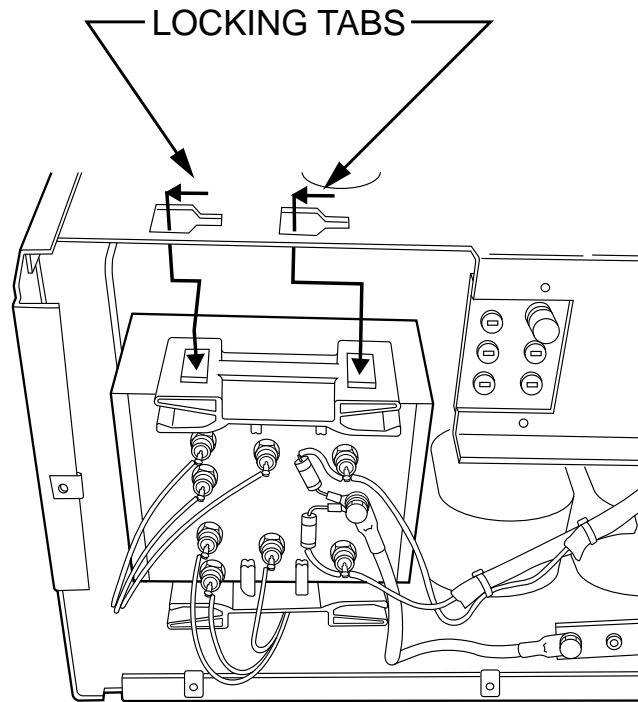

**Figure F.17 Output Diode Assembly and Leads**
3. Locate output diode assembly and associated leads. See Figure F.17.
4. Cut the necessary wire ties and slide the sleeving from the four wire connections to be disassembled. See Figure F.17
8. Using the 7/16" wrench remove the bolt and washers connecting the output cable to the diode heat sink. Be sure to take note of the small resistor connection at the same point. See Figure F.17.
16. Using the 7/16" wrench, bolt and washers connect the output cable to the diode heat sink. Be sure to take note of the small resistor connection at the same point. See **Figure F.17**.